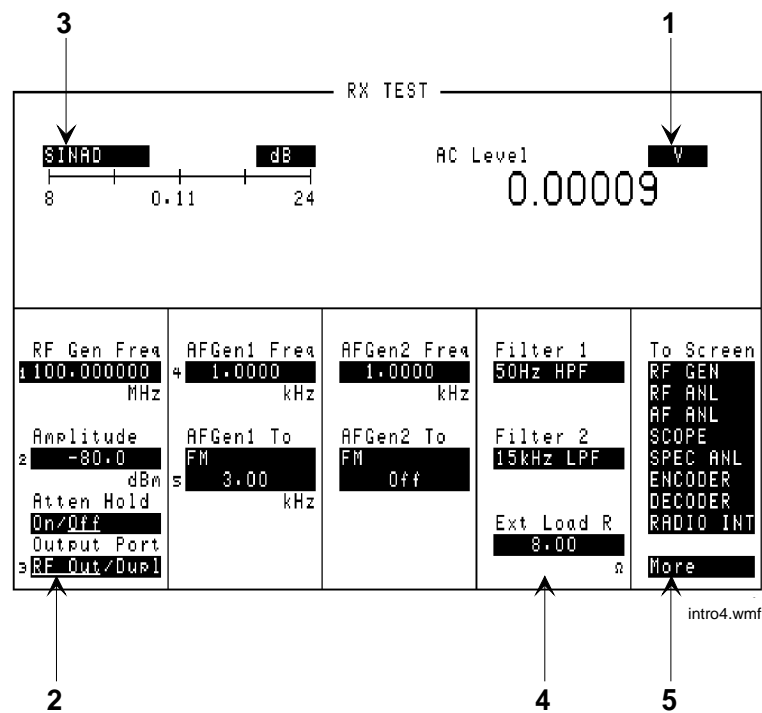

Figure 3 Different Types of Fields
- The front-panel Cursor Control knob (using the **To Screen** menu, see item 5 in figure 3 on page 43)
Unit-of-measure can be changed to display measurements in different values or magnitudes. See item 1 in figure 3 to see an example of a units-of-measure field.
Underlined immediate action fields provide a choice of two settings. See item 2 in figure 3 to see an example of an underlined immediate-action field.
One-of-many fields display a list of choices when selected. See item 3 in figure 3 to see an example of a one-of many field.
The **To screen** menu (see item 5 in figure 3) is a variation of the one-of-many field.
Numeric-entry fields contain values for settings like External Load Resistance and RF Generator Frequency. See item 4 in figure 3 to see an example of a numeric-entry field.